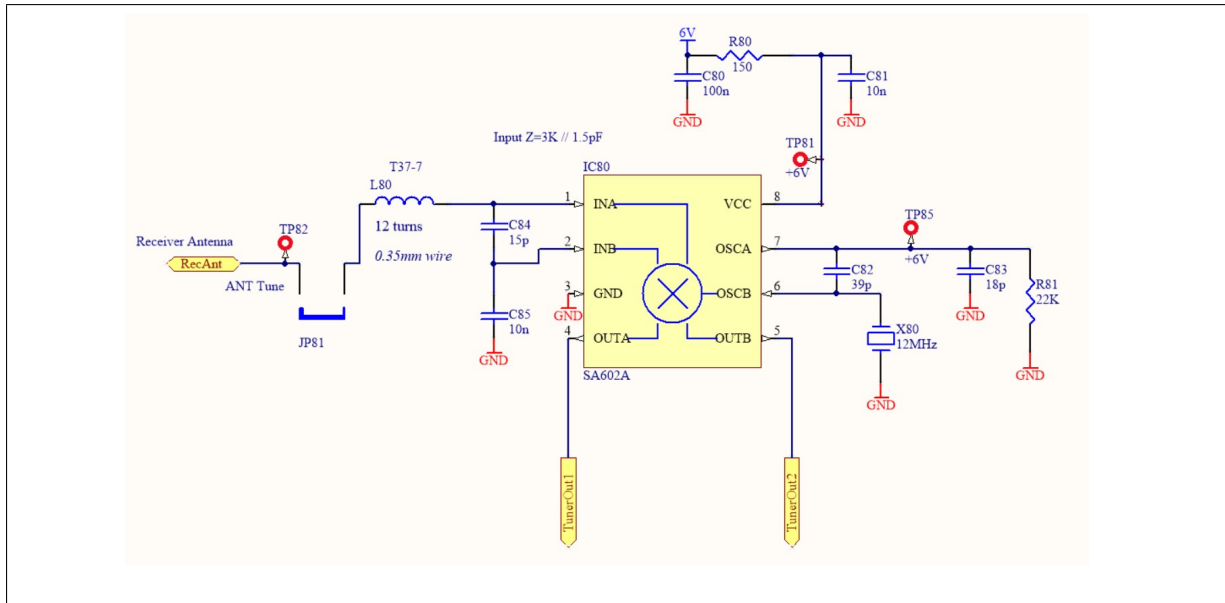

Figure 4: Receiver mixer schematic diagram.
1. Install and solder IC80, the receiver mixer. Make sure that pin 1 gets installed into the rectangular shaped pad on the PCB. Note that all other pads are oval shaped. This mixer converts 27.000 MHz signal to 15.000 MHz. The pin OSC_B of the mixer chip has a negative input resistance at high frequencies, if small capacitors (C82 and C83) are connected at pins OSC_B and OSC_E . When a quartz crystal resonator at 12.000 MHz is connected to this pin as shown in Fig. 4, an oscillator at 12.000 MHz is obtained.